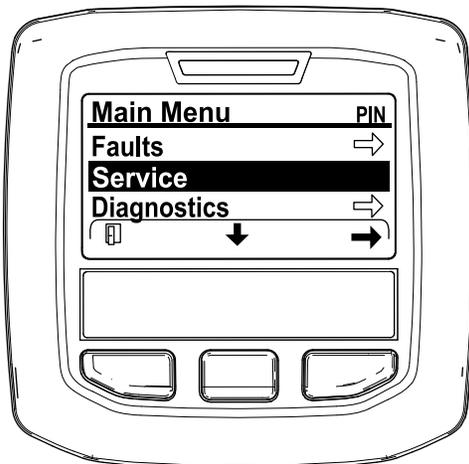

Figure 41
2. Navigate to the MAIN MENU, press the center button to scroll down to the SERVICE MENU, and press the right button to select the SERVICE option (Figure 41).